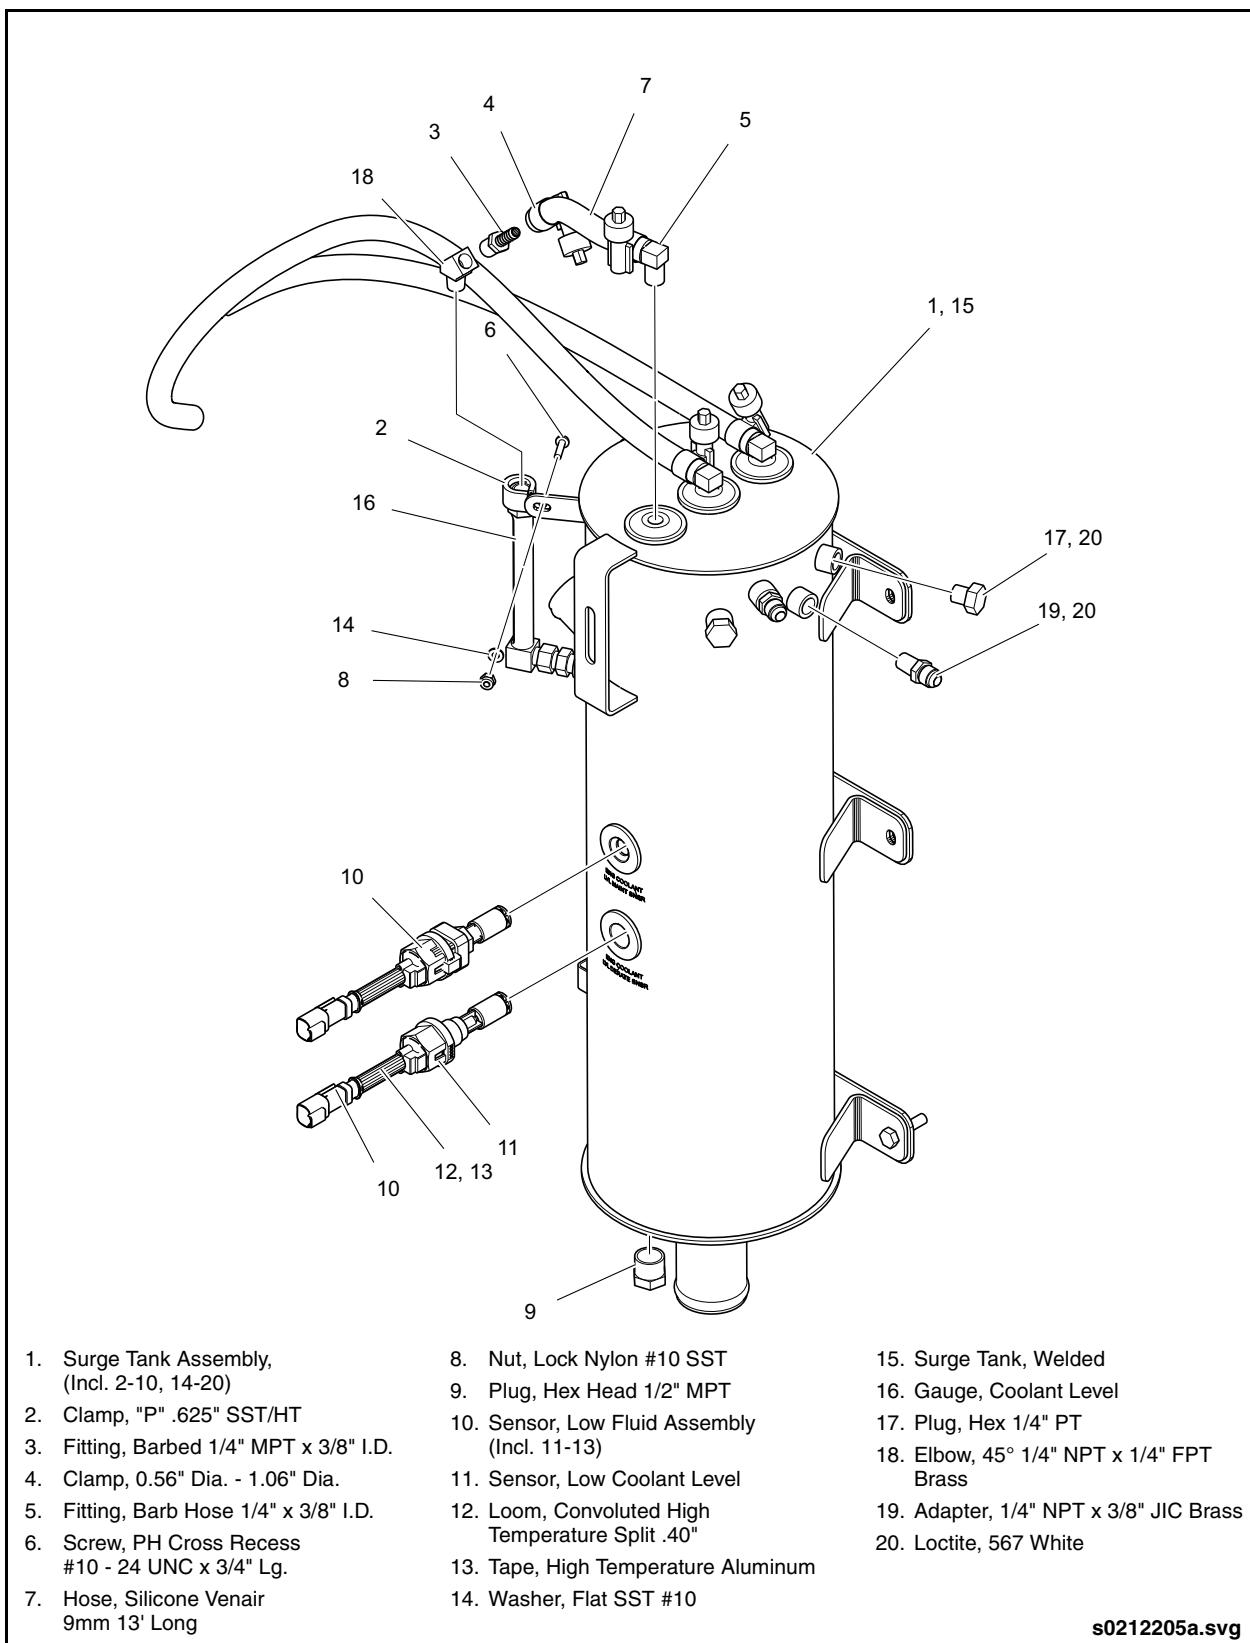

Fig. 6-7: Surge Tank Assembly
9. Remove coolant sensors, fittings, and fluid gauge as required. See “Fig. 6-7: Surge Tank Assembly” on page 25.